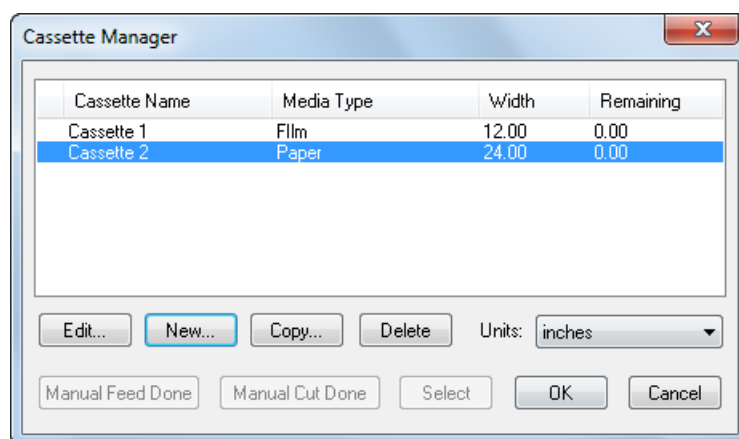

Figure 9.4 Cassette Manager dialog box
Before processing any jobs, you need to tell the RIP about the cassettes you are using and give details of the media currently in each cassette. You do this from the Cassette Manager dialog box. Click the **Cassette Manager** button in the Edit Page Setup dialog box or choose **Output > Cassette Manager** to open the Cassette Manager dialog box, as shown in Figure 9.4.
- If you perform a manual operation by using controls on the output device, you must inform the RIP. Display the Cassette Manager and click the button **Manual Cut Done** or **Manual Feed Done** whenever you perform the corresponding manual operation. See Figure 9.4, page 272, and the following description of the buttons.